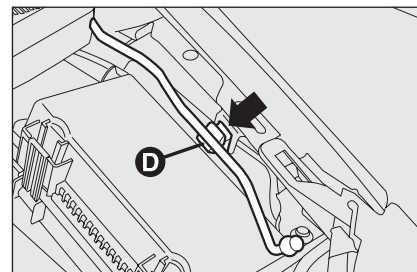
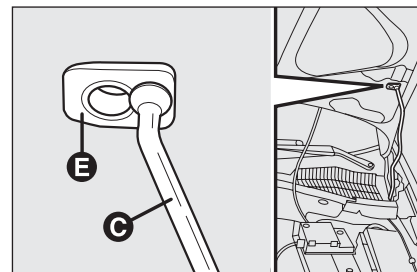

fig. 96
fig. 97
- ☐ lift the bonnet and at the same time release the rod **D-fig. 96** from the catch, then fit end **C-fig. 97** of the rod into the bonnet recess **E**.
- ☐ hold the bonnet up with one hand and with the other remove rod **C**-fig. 97 from seat **E** and fit it back into its catch **D**-fig. 96;